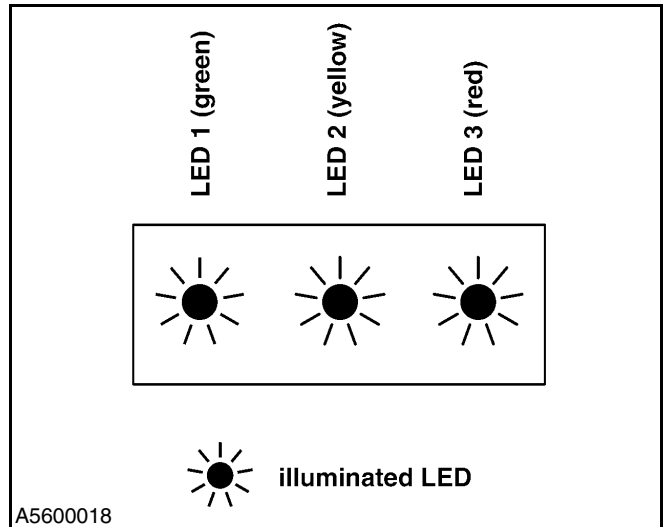

Figure 33
- The main voltage is low or the door is experiencing reduced performance. (See Figure 33.)